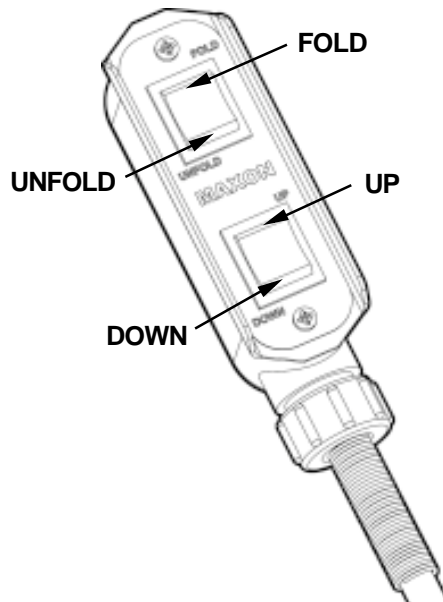
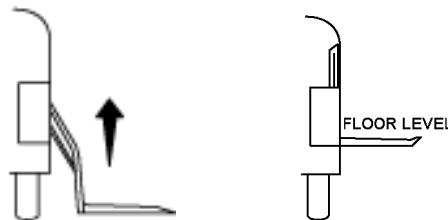
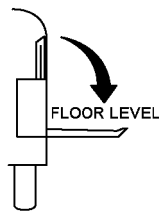

FIG. 9 WHEELCHAIR LIFT HAND CONTROL
FIG. 10 RAISING LIFT UP TO VEHICLE FLOOR LEVEL
FIG.11 UNFOLD PLATFORM
7. Activate **UP** switch on Lift HAND CONTROL (**FIG. 9**) to raise PLAT-FORM to vehicle floor level (**FIG. 10**).
2. Activate **UNFOLD** switch on Lift HAND CONTROL (**FIG. 9**) to open PLATFORM to horizontal position (**FIG. 11**).